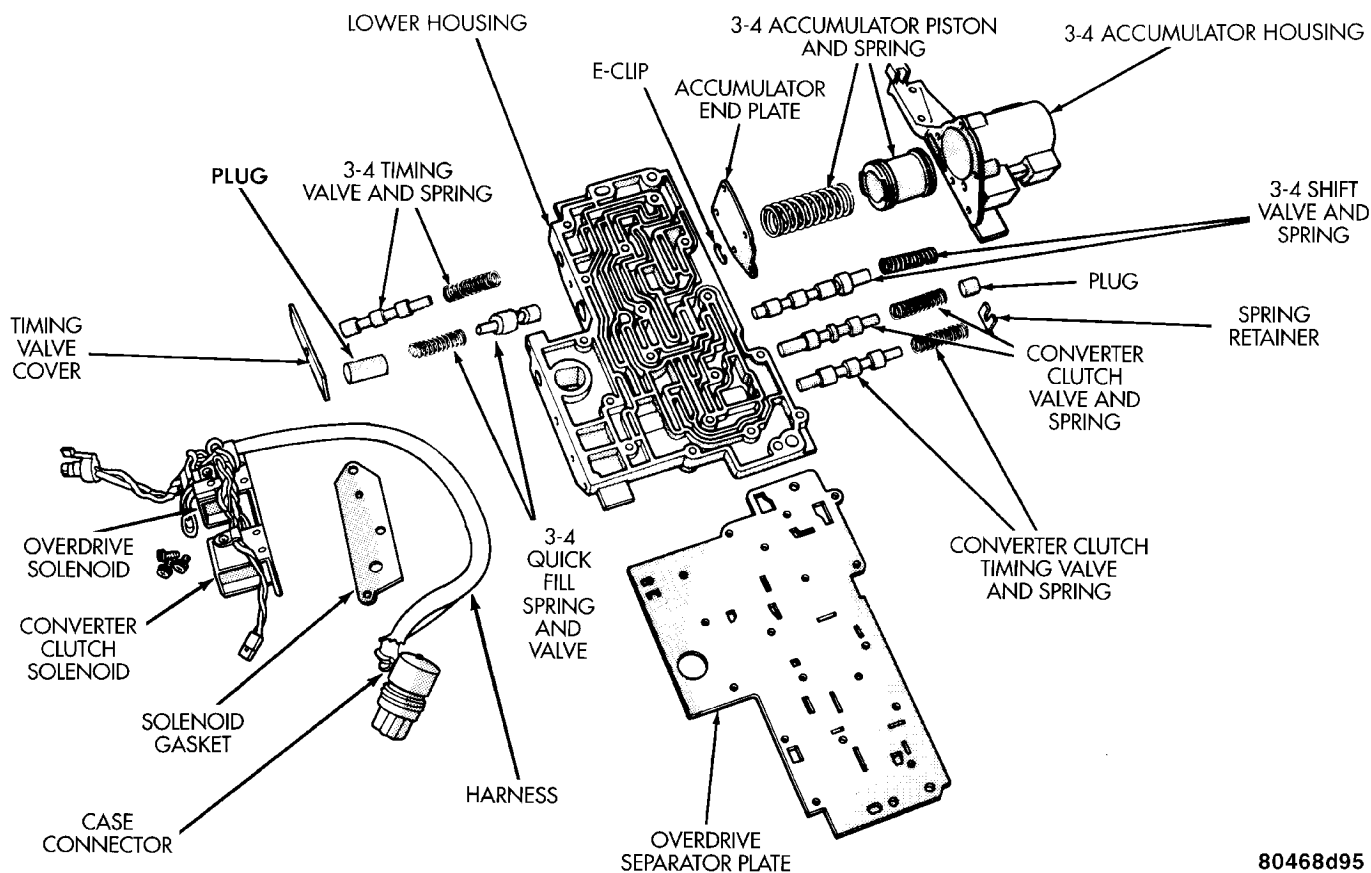

Fig. 69 Lower Housing Shift Valves And Springs
- (3) Remove 3-4 quick fill valve, spring and plug.
- (4) Remove 3-4 shift valve and spring.
- (5) Remove converter clutch valve, spring and plug (Fig. 69).
- (1) Lubricate valves, springs, and the housing valve and plug bores with clean transmission fluid (Fig. 69).
- (2) Install 3-4 timing valve spring and valve in lower housing.
- (3) Install 3-4 quick fill valve in lower housing.
- (4) Install 3-4 quick fill valve spring and plug in housing.
- (5) Install timing valve end plate. Tighten end plate screws to 4 N·m (35 in. lbs.) torque.